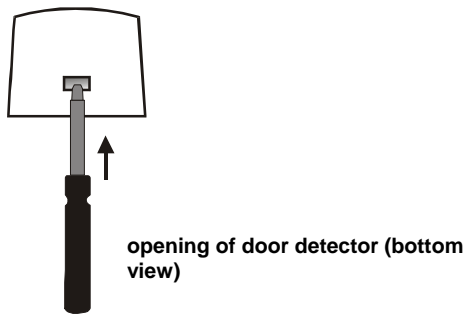

Fig.7
- Open the detector's cover by pressing the internal pawl – see fig. 7